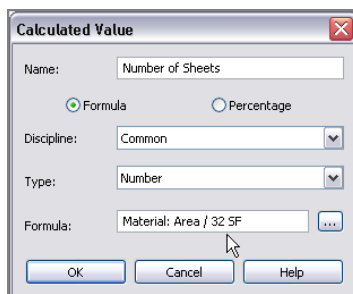

FIGURE 11.35: Changing the calculated values
6. Make sure Type is set to Number (see Figure 11.35).